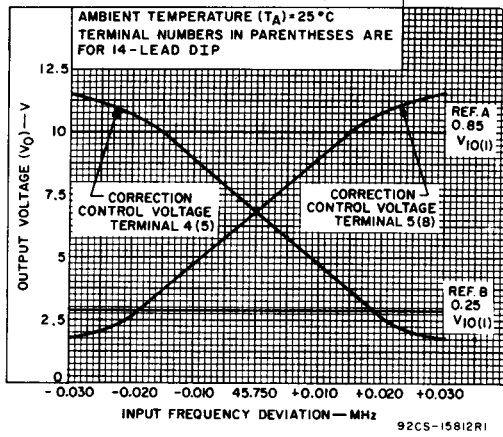
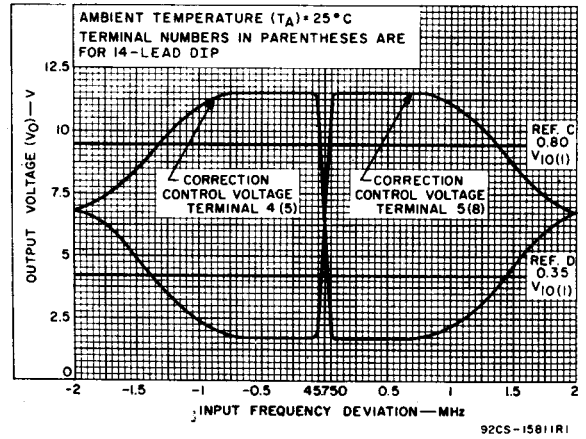

Fig. 6 — Typical narrow-band dynamic control voltage characteristics.
Fig. 7 — Typical wide-band dynamic control voltage characteristics.
Figures 5, 6, and 7 show the control voltages generated at terminals 4(5) and 5(8) of the Integrated Circuit as a function of the frequency deviation from the nominal center frequency. Figure 6 shows the region within 30 kHz of the center frequency while Figure 7 covers the entire bandwidth of the system. The horizontal reference lines on the figures are generated by a voltage divider connected between the power